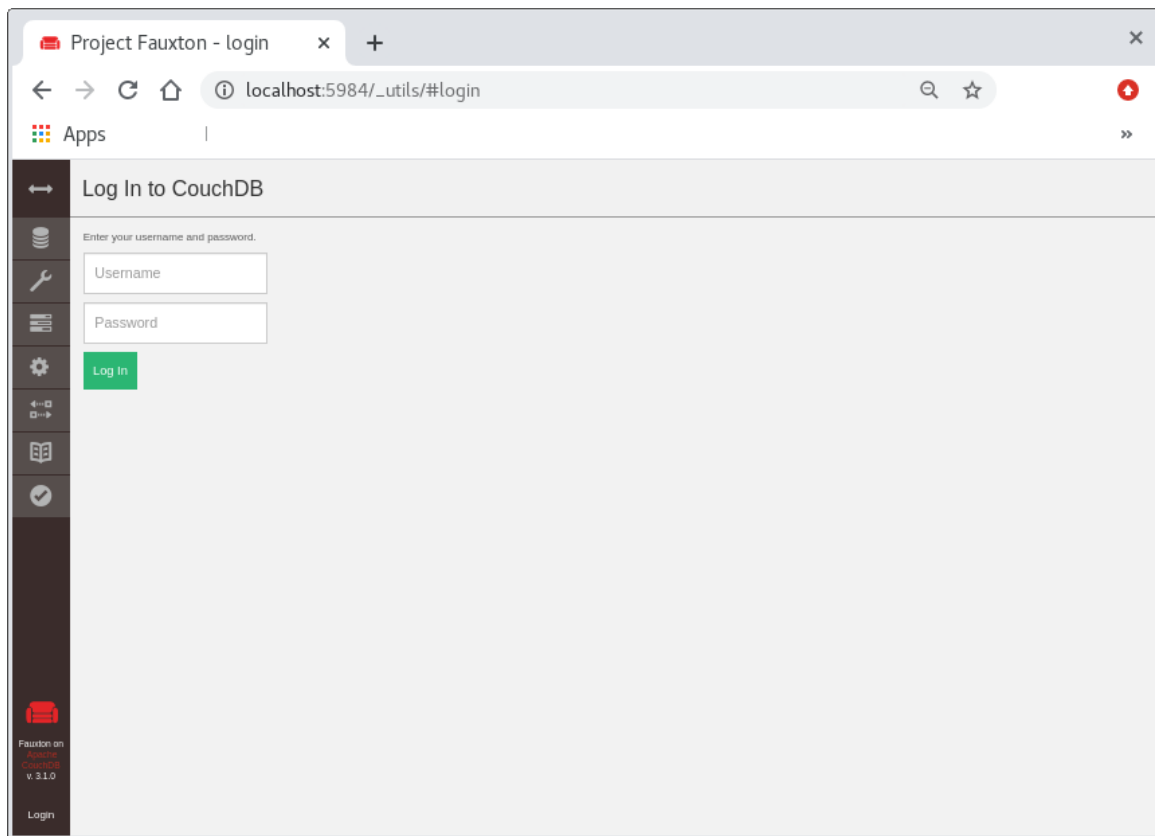

Figure 3-3 Couch DB Web UI Login
- a. In a browser, navigate to http://localhost:5984/_utils (see Figure 3-3).